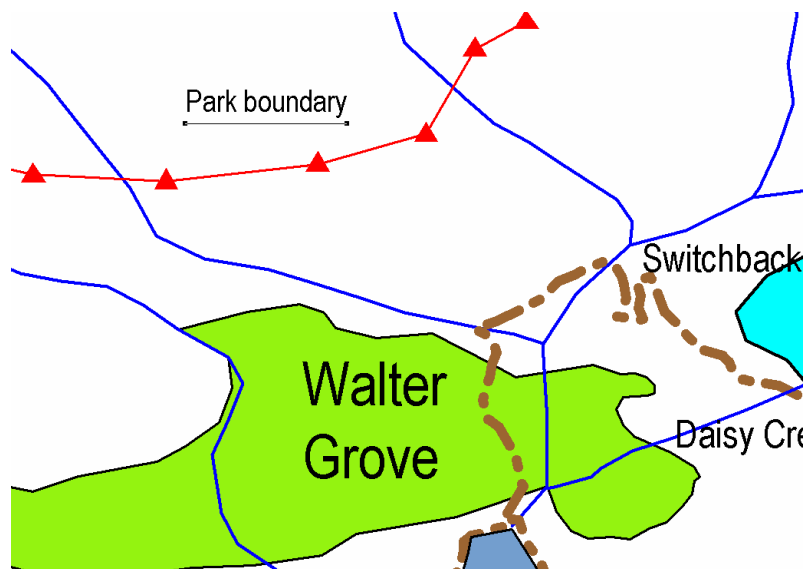

Figure 3.24a: Plan Window Feature Formatting Dialog Box
13. With the **ABC** cursor click on upper left corner of the map and enter the text (“Park Boundary”). See Figure 3.24a.